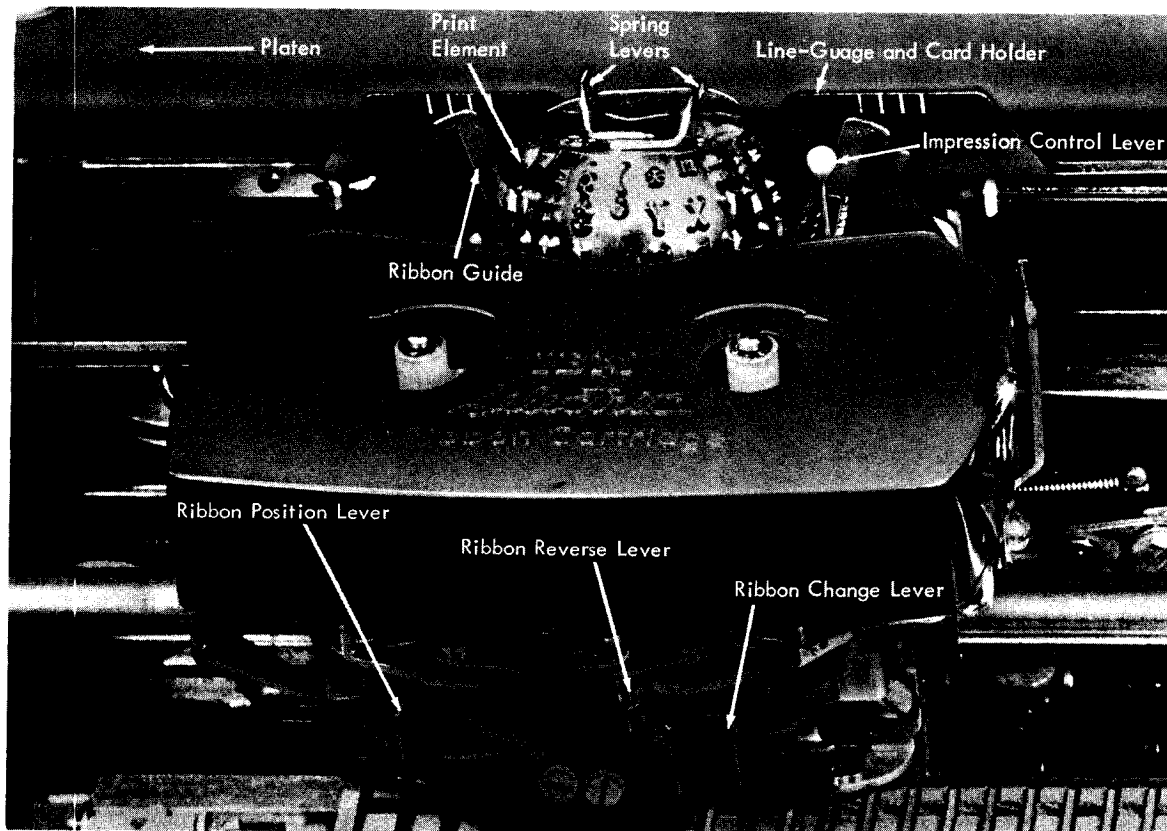

Figure 6. Selectric Ribbon Controls
The paper-release lever, located on the right side behind the platen, releases feed-roll pressure for positioning or removing paper. (See Figure 6.)
4. Press the spring levers on top of print element (Figure 6).